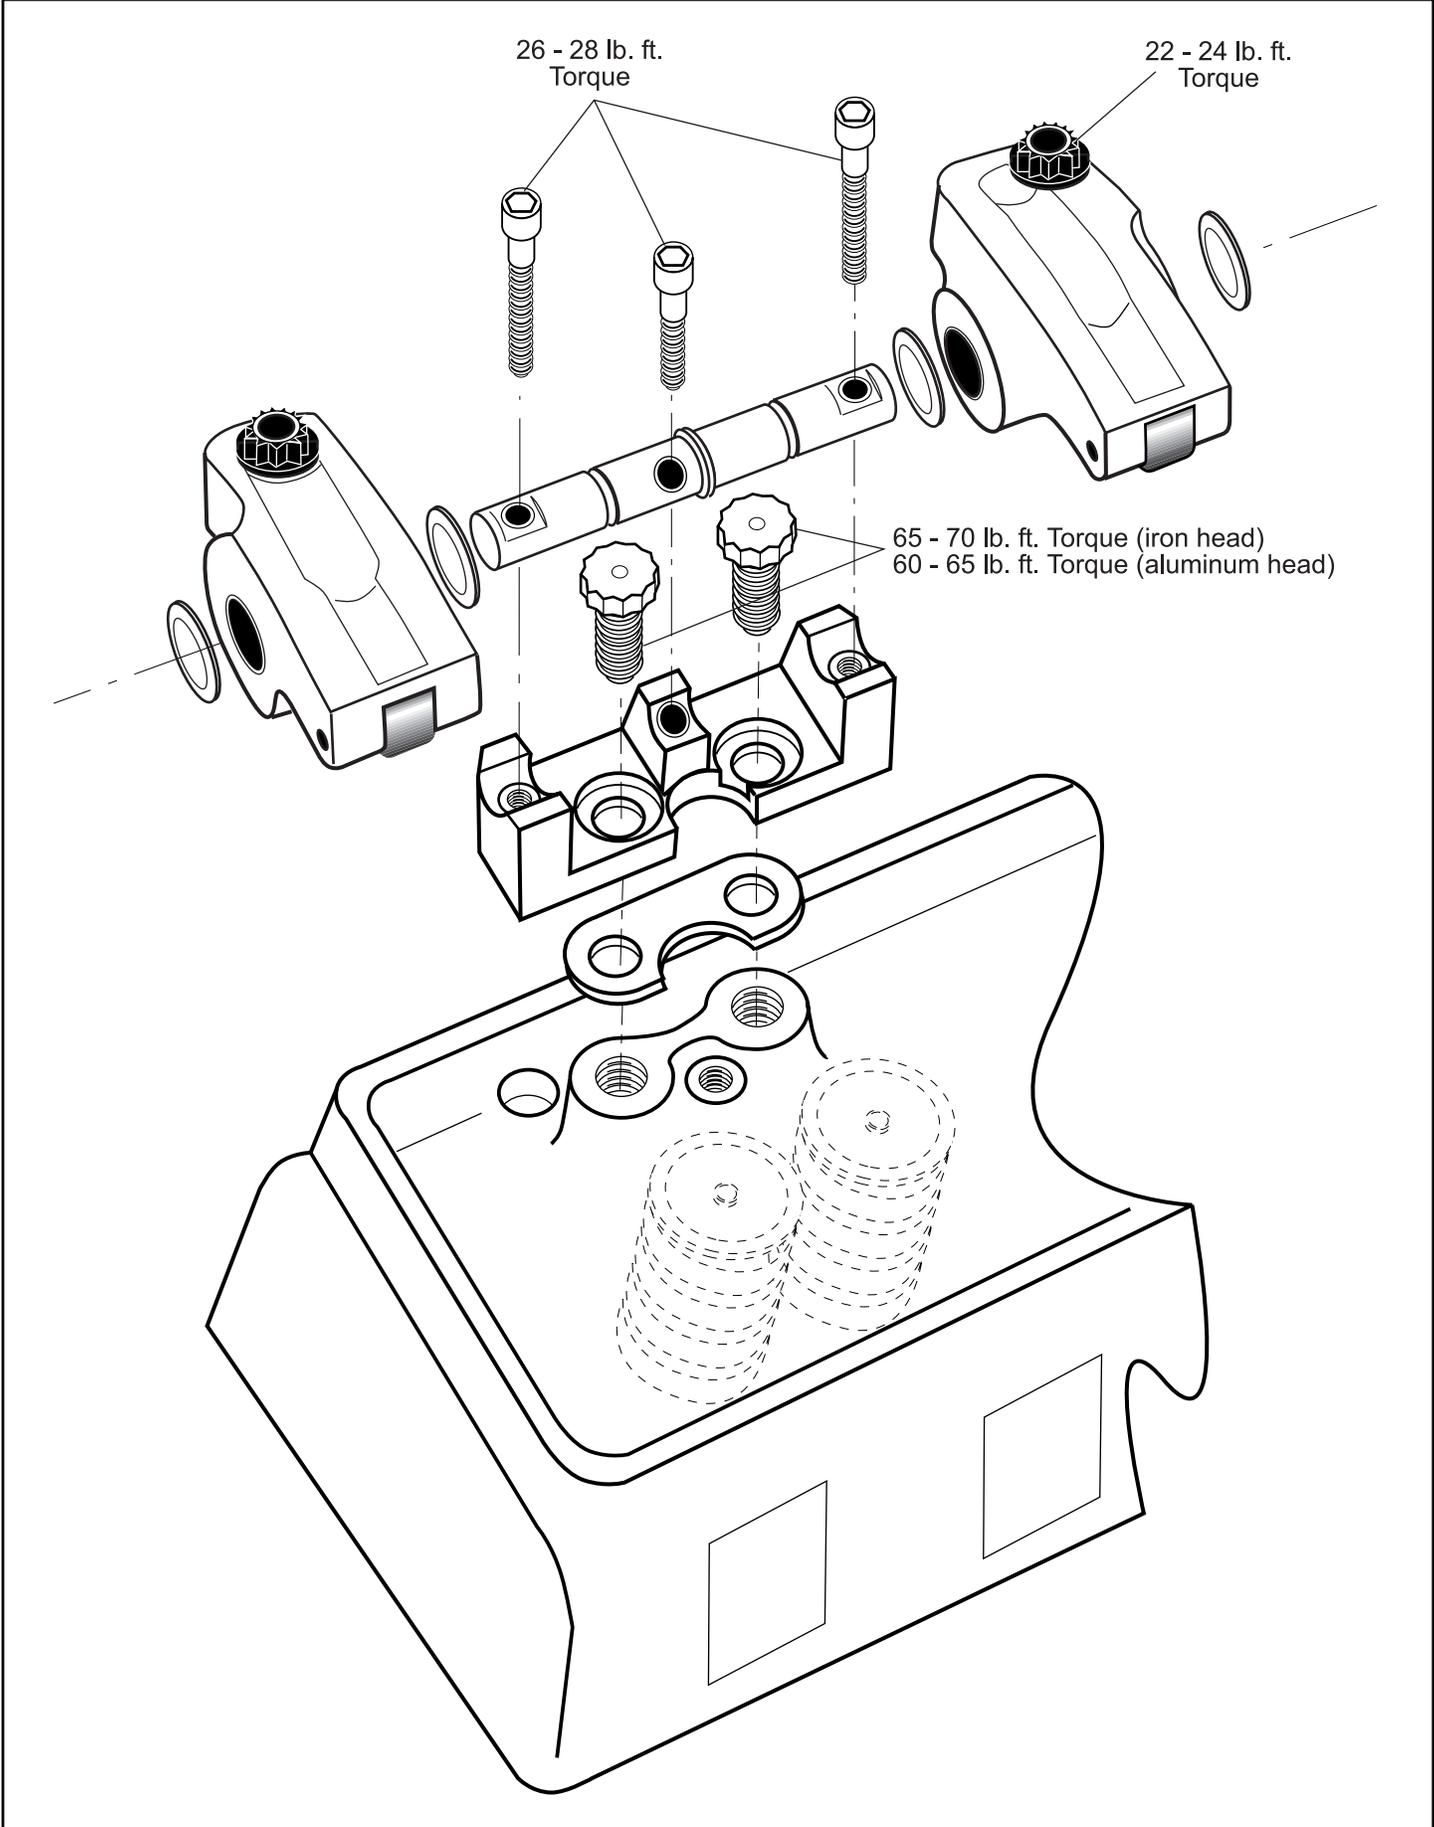

Figure 4.
Figure 4) using oil as a lubricant. (Shake excess oil from threads so that no oil accumulates in the bottom of the stud holes causing the bolts to hydraulic before adequately securing the stands to the heads)
10. Lube the two long and one short shaft bolts and install and torque to spec. (See fig. 4)